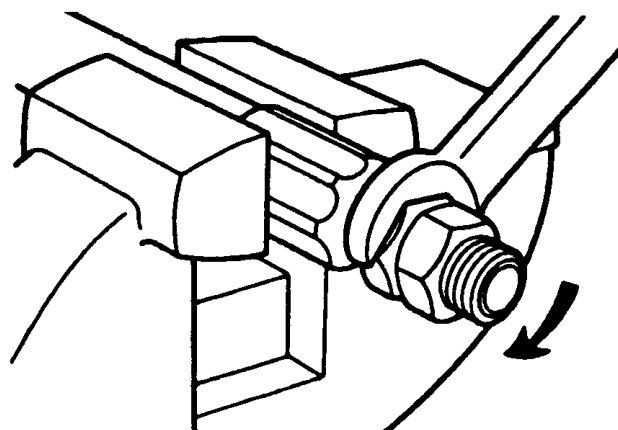

Figure 97 Thread Fitting
9. Position hose socket in swivel nut and reassemble male fitting (if removed) to lock swivel nut on the fitting. Thread the fitting and swivel nut (with male adapter) assembly into the hose as shown in Figure 97 , leaving 1/32 inch to 1/16 inch (.793-1.59 mm) clearance between nut and socket so that the nut can swivel freely.